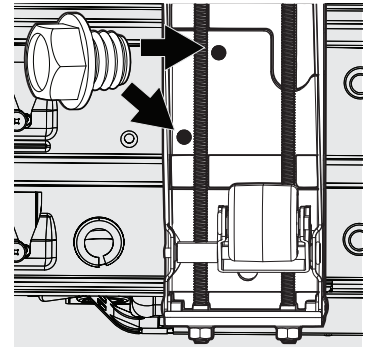

Fig. 4
- b. Using a 5H bolt and a power drill, fasten the bottom of the Leveler Assembly with a $\frac{5}{8}$ " hex drill bit in whichever hole overlaps the screw hole (Fig. 4).